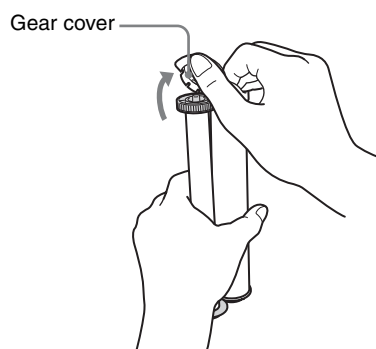

Figure 3.5
- 4** Set a new ink ribbon on the ink ribbon holder. Hold the ink ribbon right and remove the gear cover (see Figure 3.5).